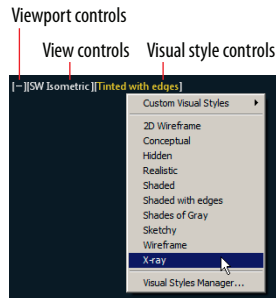

FIGURE 16.6 In-canvas controls
7. You can also change visual styles using the in-canvas controls located in the upper-left corner of the viewport. Select the Visual Style Controls to open a menu (see Figure 16.6).